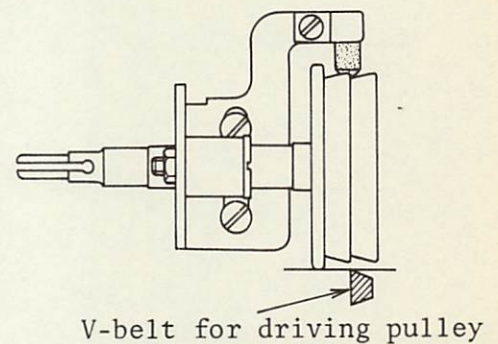

Fig.12
12. Position of bobbin winder assembly (Fig.12)
- \* When the bobbin winder is in idle condition, as seen from above, make adjustment so that the outer rim of the bobbin winder wheel brim will be in contacting position with the V-belt as shown in Fig.12.